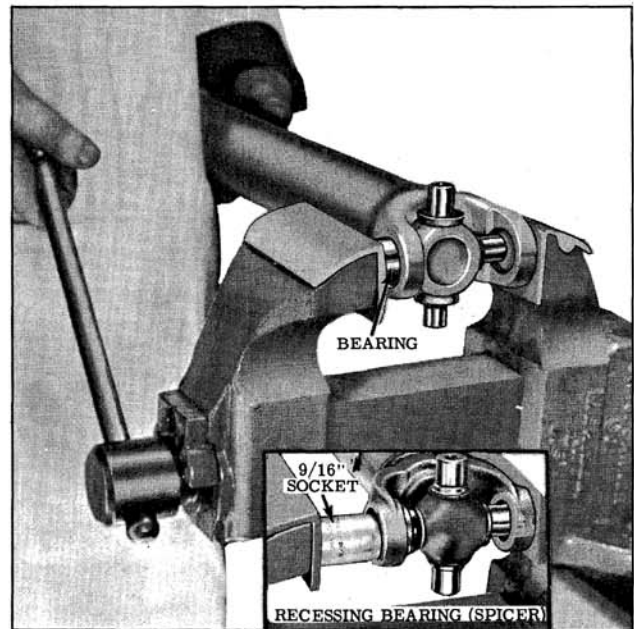

Fig. 10-78 Installing Bearings
4. Press a bearing into one side of yoke until retaining ring can be installed. (Fig. 10-78).
NOTE: On Spicer units, the bearing must be recessed into the yoke so that the retaining ring can be installed. The bearing can be recessed with a 9/16" socket and vise. (Inset, Fig. 10-78).